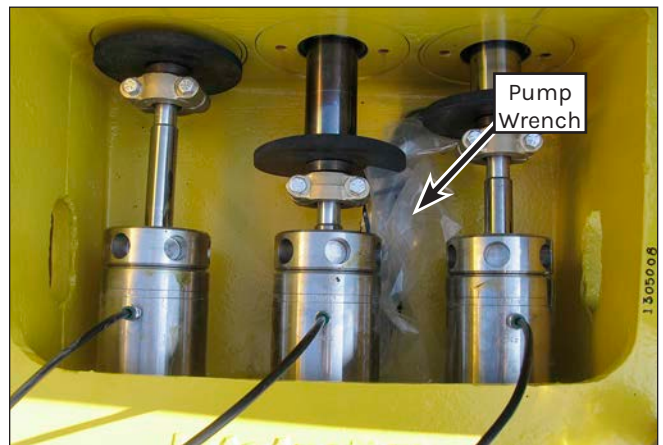

Figure 31: Pump Wrench Removal.
5. Remove the pump wrench from the rod box (Figure 31).